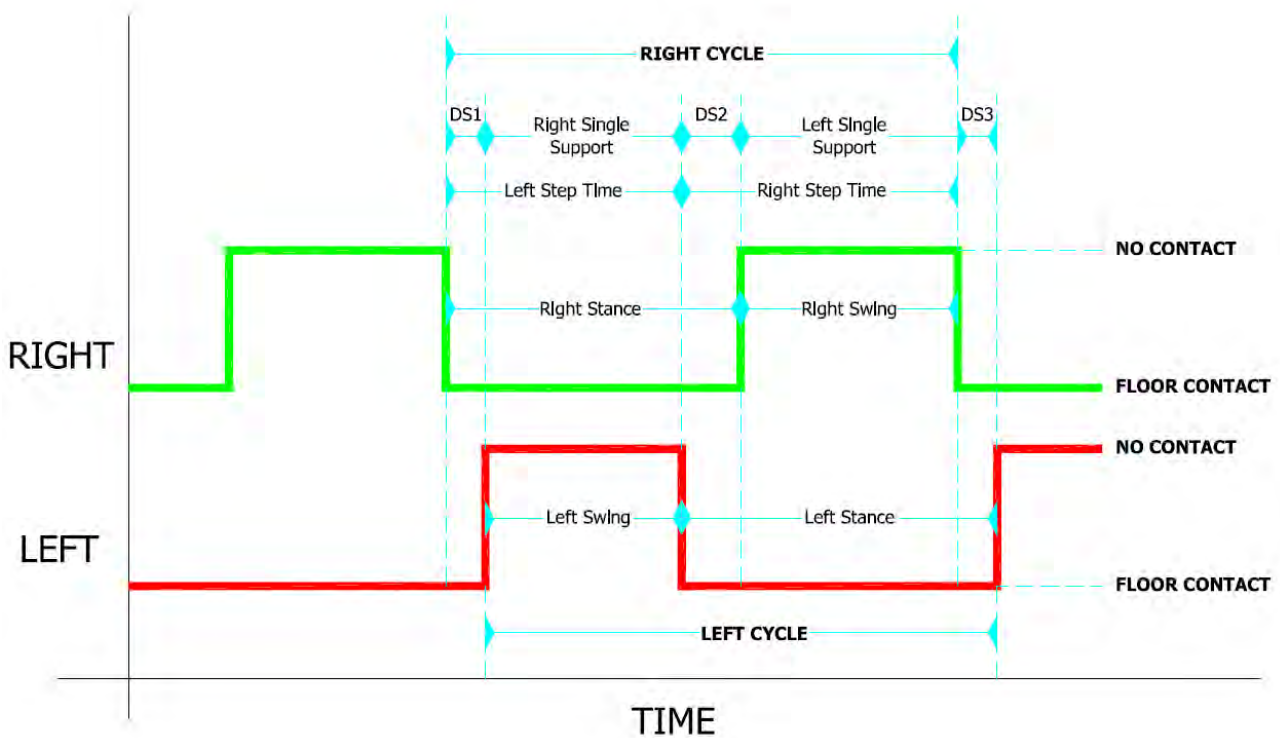

Figure 122 - Gait analysis terminology
Each gait cycle consists of two phases, where both feet are in contact with the ground, called **Double Support**. The first Double Support (DS1 in Figure 122 - **Gait analysis terminology** referred to the right foot) is also called '**Load Response**', whereas the second (DS2 is called '**Pre Swing**'). When only one foot is in contact with the ground, this is called **Single Support**.
- **Total Double Sup [s | %]:** This is the sum of two partial double supports, defined as DS1 and DS2 in Figure 122 - Gait analysis terminology